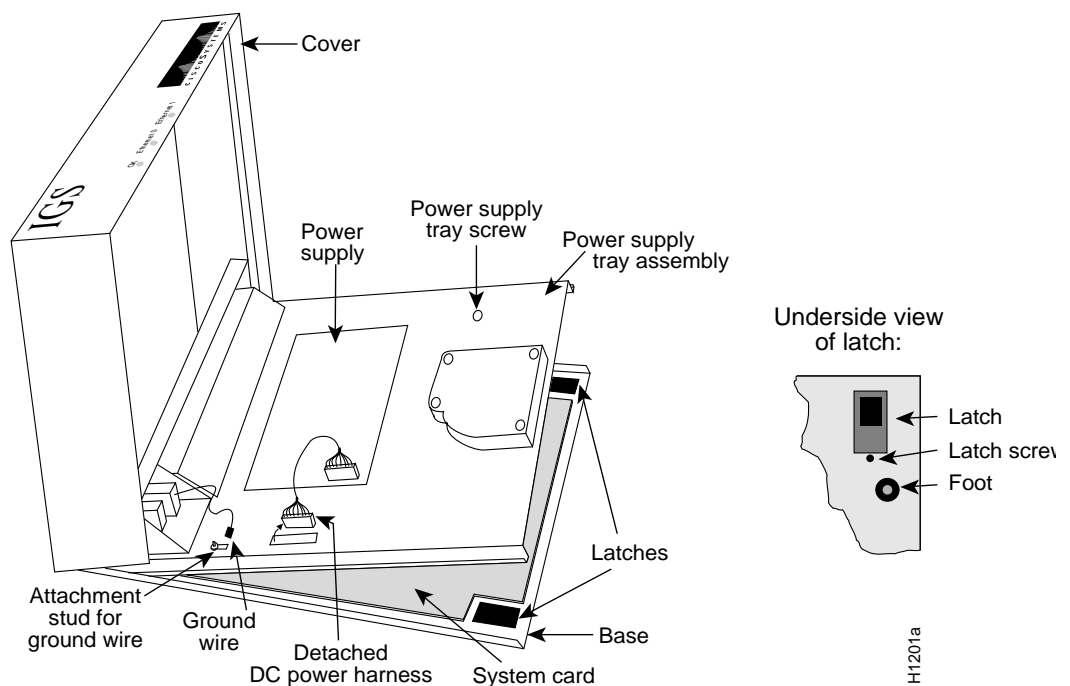

Figure 1 Internal View of the IGS/TR
This section outlines the steps required to open the IGS/TR chassis. The following discussion assumes that you are looking at the IGS/TR from the front. Use Figure 1 as a guide while performing the cover and tray removal procedures.
- Step 1: Replace the metal tray on the chassis (see Figure 1).